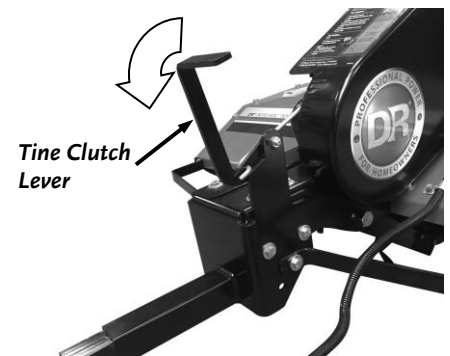

Figure 11
5. Pull the Tine Clutch Lever all the way forward until it locks into place to disengage the Tines. A Safety Interlock Switch prevents the Engine from starting with the Tines engaged (**Figure 11**).